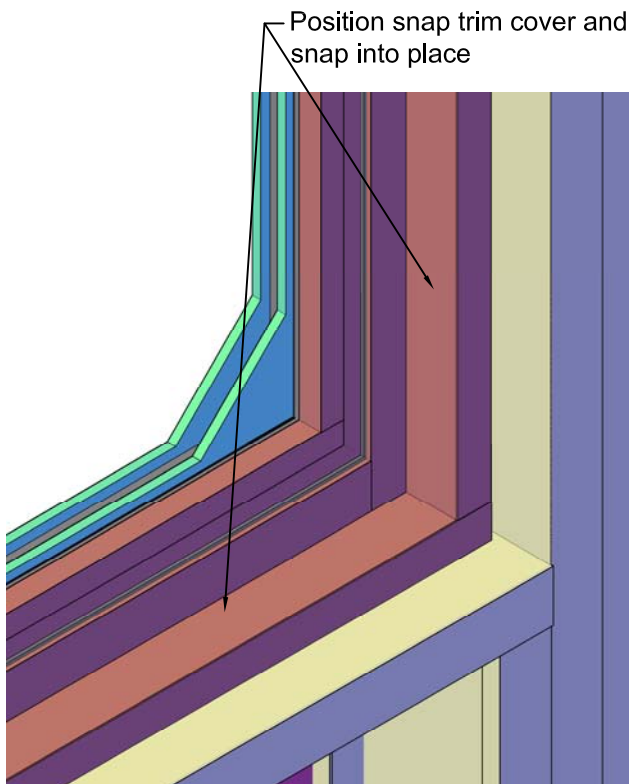

Fig. 5 - Viewed from Building Interior
5) The snap trim cover should be cut as accurate as possible. Snap in the sides running through first and then the intersecting covers. See Fig. 5